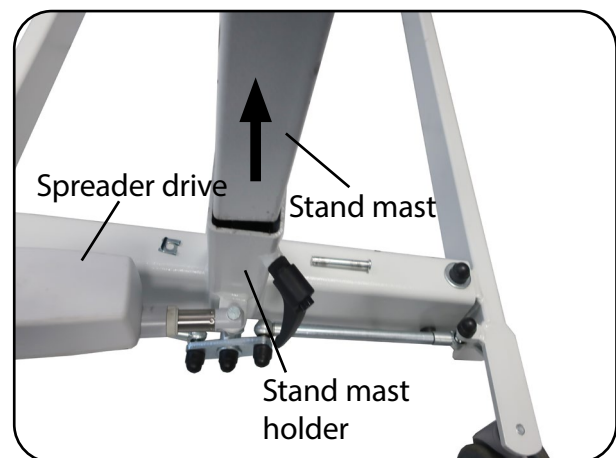

Fig. 13.2.03 – Pulling out the stand mast
1. Brake the two rear castors on the operator side by activating the foot lever (Fig. 13.2.03) (see chapter on Operation, section **Castors**).
6. Pull the stand mast out of the stand mast holder on the chassis and stow it safely in the original packaging (Fig. 13.2.03).